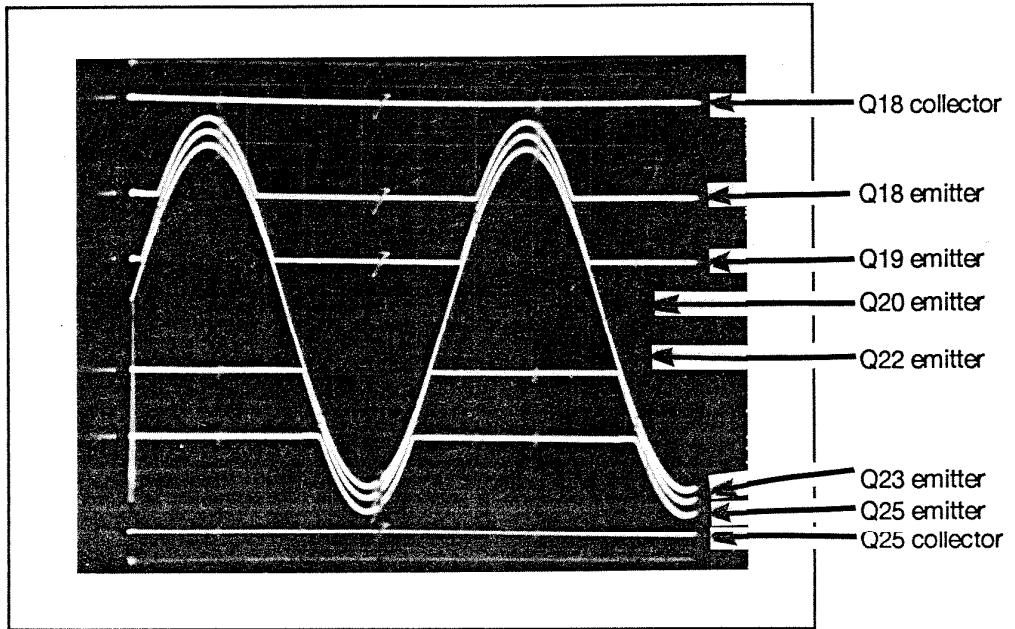

Figure 4: Commutators
- D) Increase amplifier output to 67.8 Vrms (575W/8Ω). The commutators should appear as in Figure 4 at 2kHz.